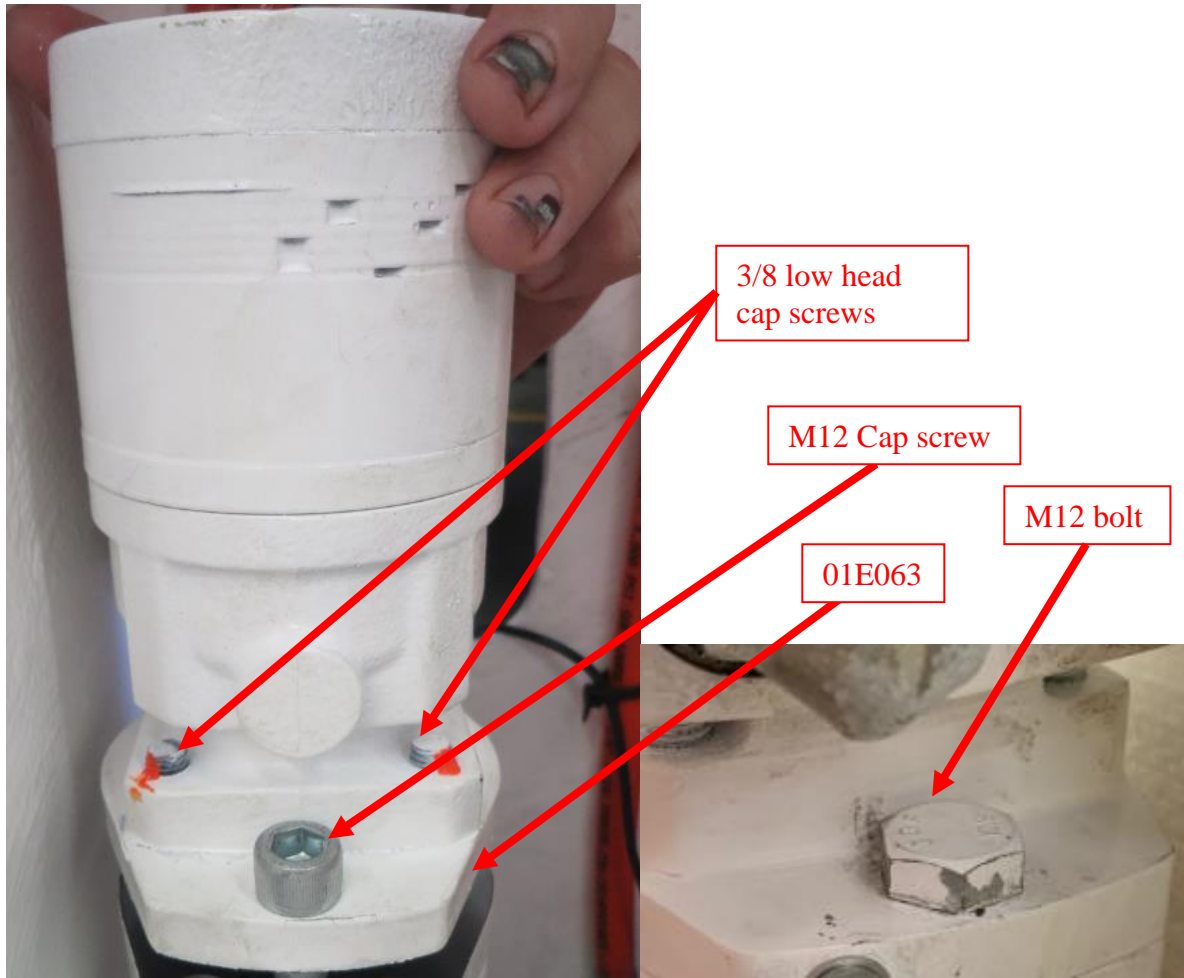

Figure 5 – Parker TE165 motor assembled with 01E063 plate
11. Insert M12 bolt and cap screw into 01E063 (as they will not fit if fitted later). Assemble the Parker motor with plate 01E063 using the 4 x 3/8 low head cap screws torqued to approx. 50 Nm as shown in Figure 5. Apply Loctite 243 to each fastener thread before inserting.